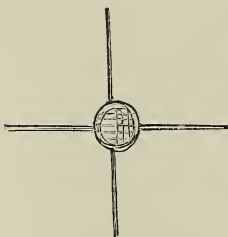

Fig. 12.
1. *Fixed piece of blue-lights.*—Having selected a cork of suitable size, bore its circumference with as many holes not going to the middle as you design to have blue-lights. Each excavation made will receive the blank end of a blue-light, just as a candlestick receives the end of a candle, so that when finished, supposing you to have used four blue-lights, you will have made something like this (Fig. 12).